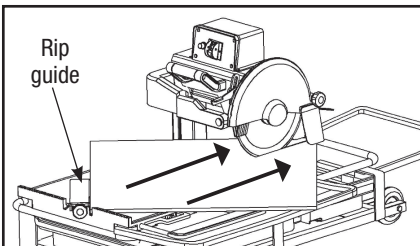

FIGURE 19
STEP 4: Make a diagonal cut by pushing the cutting table toward the cutting head (FIGURE 19).